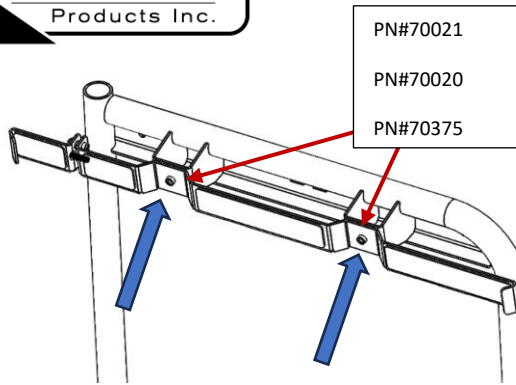

Figure 4: Tension Bar Installed on Base Unit
12. Bolt tension bar to base unit through weld nuts using two (2) 5/16 x 3/4" Stainless hex head bolts [PN 70021] and 5/16" split washer [PN 70375] as shown (Figure 4).
13. Loosely hook the fixed end of the longer tension bar bracket around the door's pinch weld, just above the window location (Figure 4). The long hook end should be on the inside seam with the mounting holes towards the taillight.